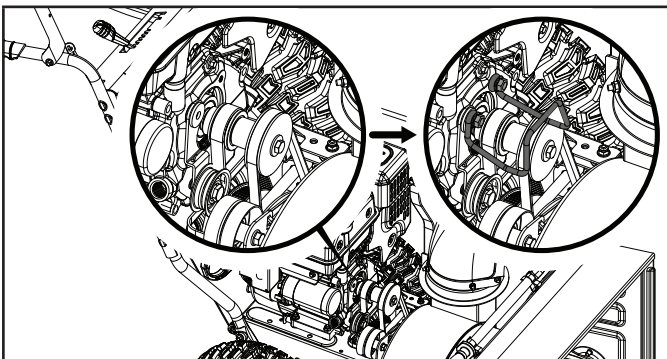

Figure 30
10. Place the belt guard back into place and install the (20 mm/30 mm) bolts that were removed earlier. Once reinstalled, make sure there is equal distance on both sides between the pulley and the guard (Fig. 30).